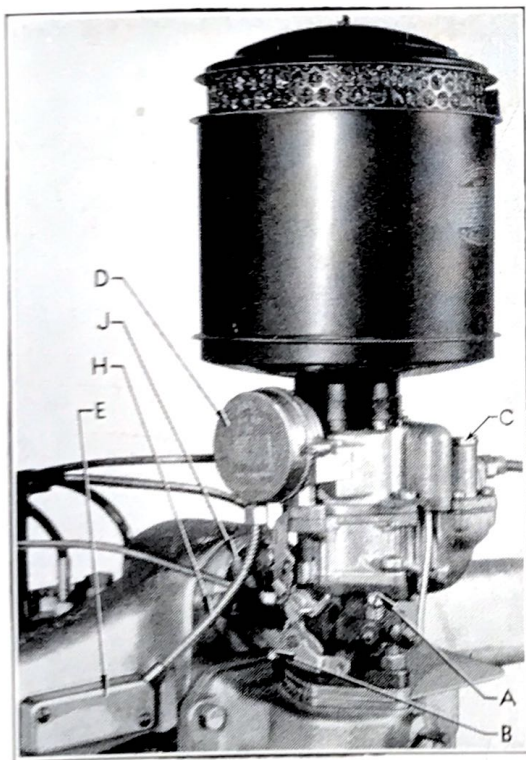

Figure 8
The down-draft, single barrel, automatic choke type carburetor, Fig. 8, is used on models 10T, 10P, 10C, 18P and 18C. This carburetor incorporates vacuum controlled metering rod, anti-percolator valve, accelerating pump and fast idle features for warm-up period. A filter screen is also incorporated at the inlet to preclude the entrance of foreign particles into the float chamber.
Fuel Mixture is controlled by the idling adjusting screw (A), Fig. 8. *Before making any adjustment the engine should be run until it reaches normal operating temperature.* To adjust, turn the screw into its seat (clockwise), then out (counter-clockwise) exactly one turn. Re-adjust for smooth idling. Final
Throttle Adjusting Screw (B), Fig. 8, should be set for a speed of $7\frac{1}{2}$ to 8 miles per hour in high gear.
Manifold Heat Control Valve (J), Fig. 8, should be set with the pointer on the valve pointing toward the letter "W" on the rear slope of the manifold for all seasons of the year.
Filter Screen Cap (C), Fig. 8, should be removed every 2,000 miles to permit cleaning the screen.